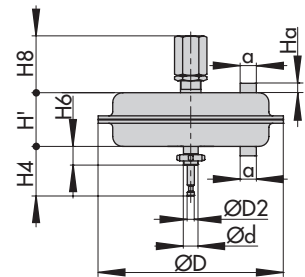

Fig. 20: Type 3271 with travel stop
1) Travel stop on both sides (Fig. 20)